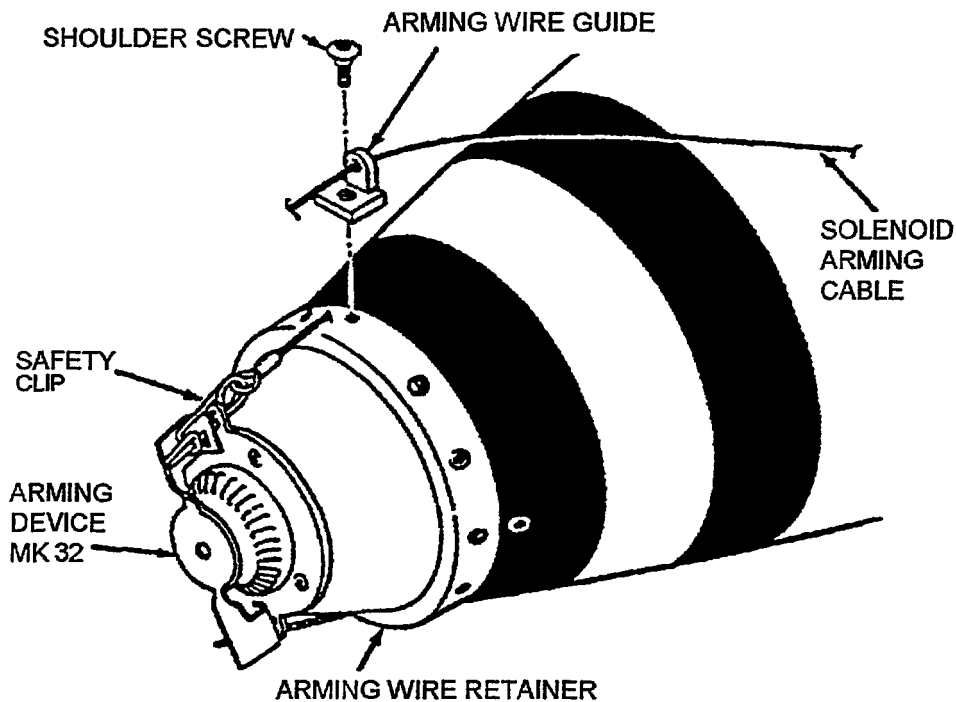

Figure 5-1C. Tail Section Mk 16 Solenoid Arming Cable Removal from Arming Device
- b. Verify the safety clip attached to the solenoid arming cable is installed in one set of arming device vanes (Figure 5-1C).